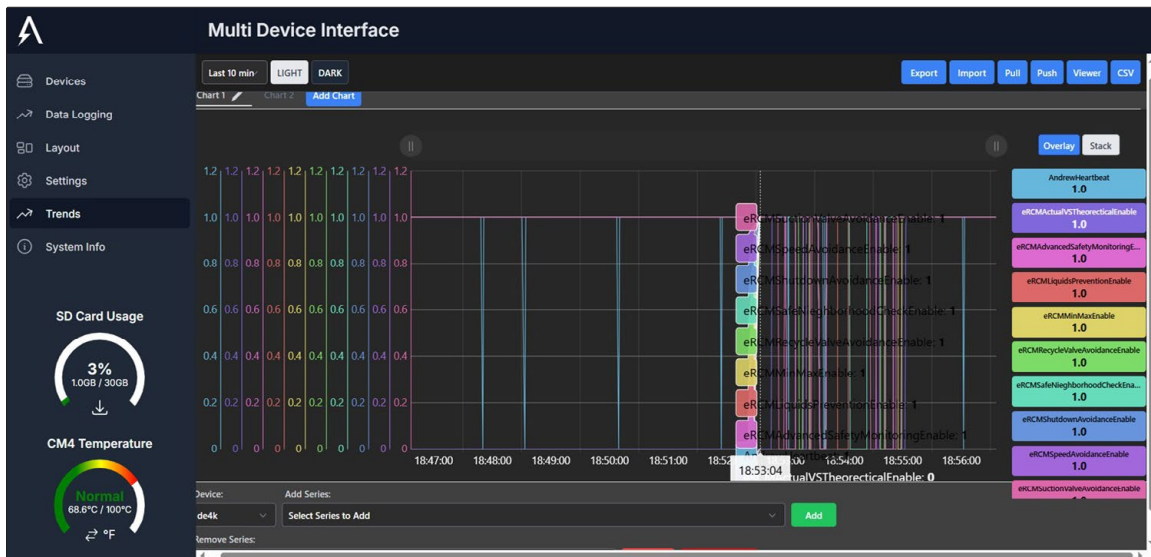

Figure 49
3. Configure the Data Explorer to include eRCM data. See example eRCM chart in Figure 49.